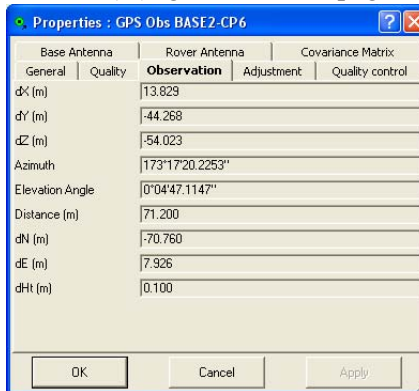

Figure 5-110. Observation Properties
3. View *Observation* tab fields which contain fields for viewing the vector solution type (dX,dY,dZ, Azimuth, Elevation Angle, Distance, dN,dE,dHt) (Figure 5-110 on page 5-73).